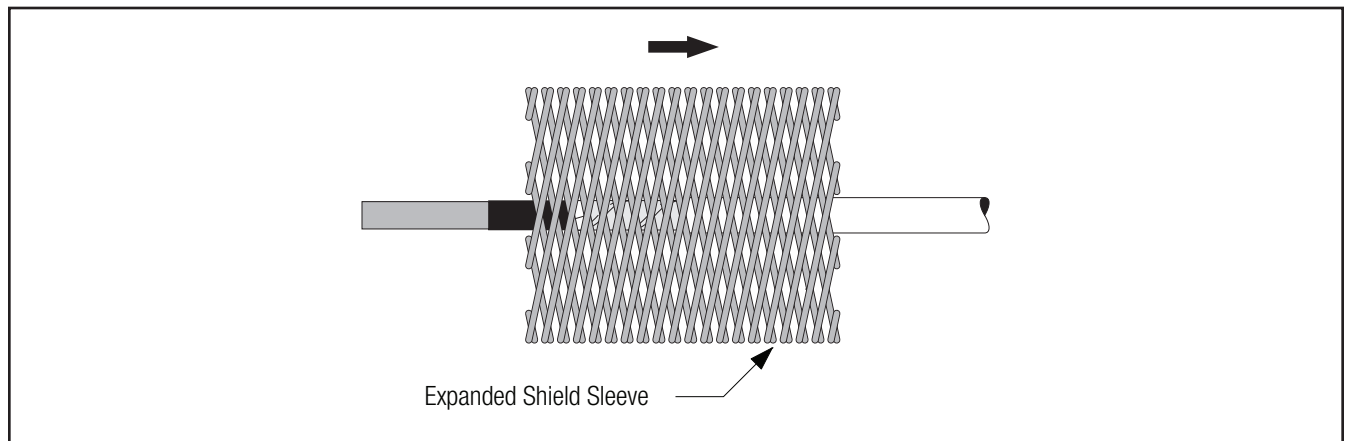

Figure 11
- 3.2 Position the expanded shield sleeve onto one cable. The shield sleeve is designed to carry up to 1/3 neutral current (*Figure 11*).